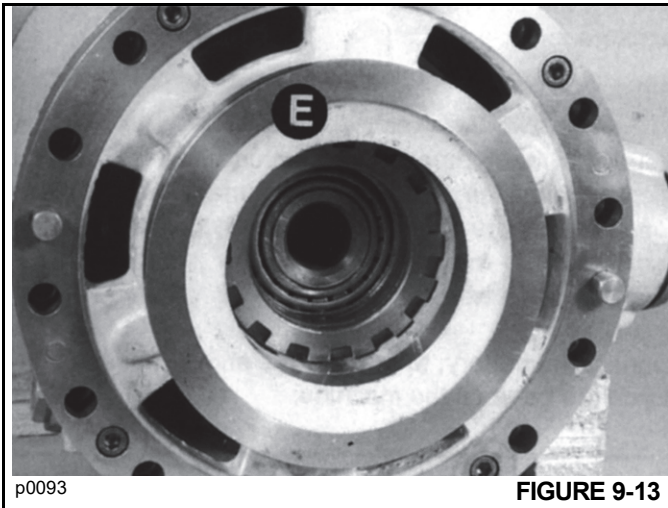

FIGURE 9-13
10. Carefully remove brake piston **E** Figure 9-13 from its housing, if removal is necessary. A hydraulic hand pump can be used to force the piston out of the housing.
2. Carefully press piston **E** Figure 9-13 all the way into its housing.